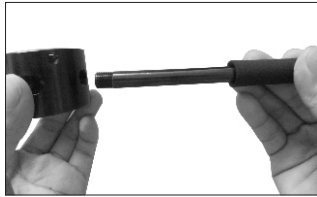

Fig.2-1
1. Screw the handles into the housing of the manual threading tool. (Fig.2-1)